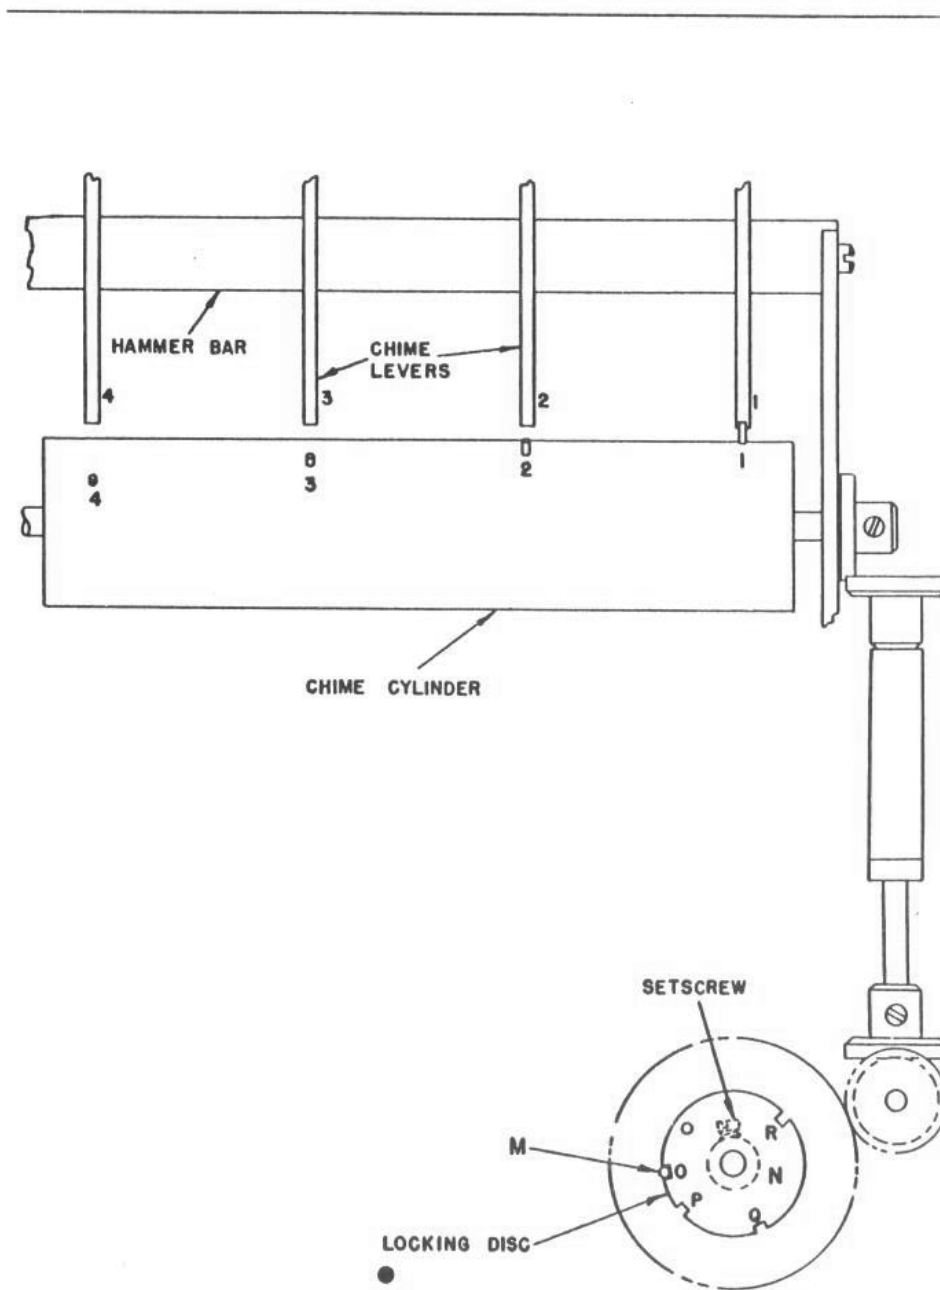

Figure 7
*See Figure 7, Page 15*
4. Cylinder drive gear on side of movement may be loose on the cylinder shaft. Tighten the set screw that is on the bushing of the cylinder drive gear and then reset cylinder. See Figure 7, Page 15.
1. Cylinder may not be set correctly. See Figure 7, Page 15.